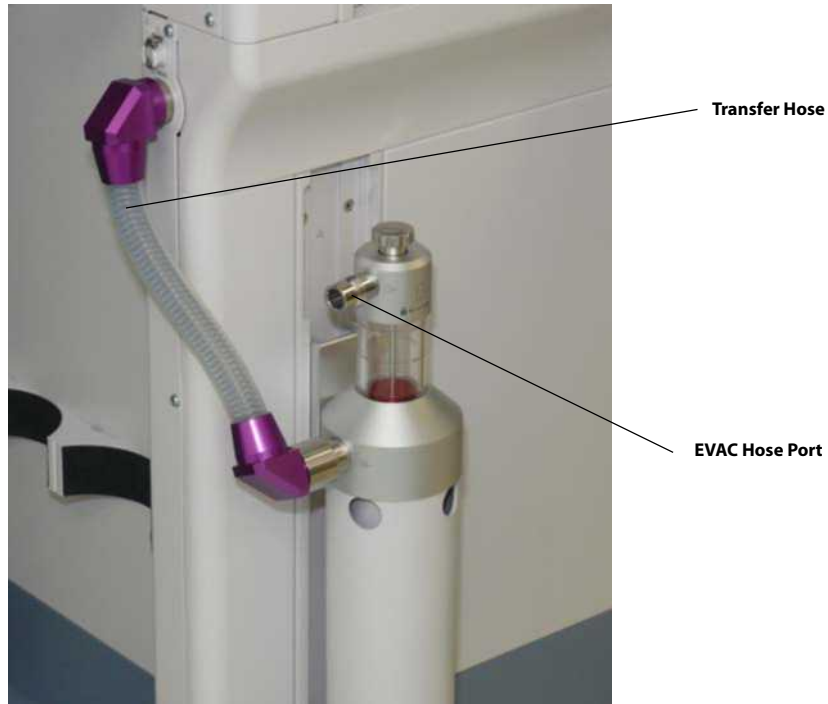

FIGURE 7-23 AGSS and Transfer Hose Removal
1. Disconnect the EVAC hose from the AGSS. (See FIGURE 7-23.)